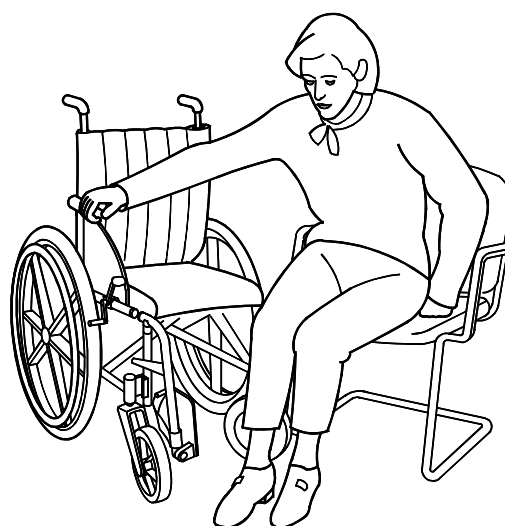

Fig. 5
3. Wherever possible position your wheelchair as illustrated in Fig. 5 and 6.